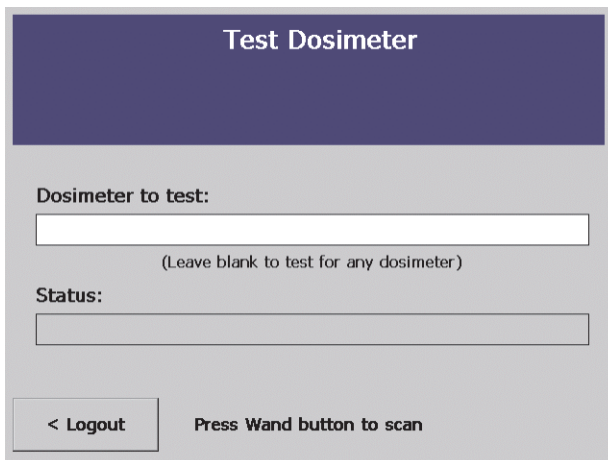

Figure 50 — Test Dosimeter
- **To read a dosimeter without knowing its serial number**, leave the **Dosimeter to test** field blank (Figure 50), then hold the dosimeter near the Reader Wand and press the button on the Reader Wand. The Reader searches for any available dosimeters within the read range.